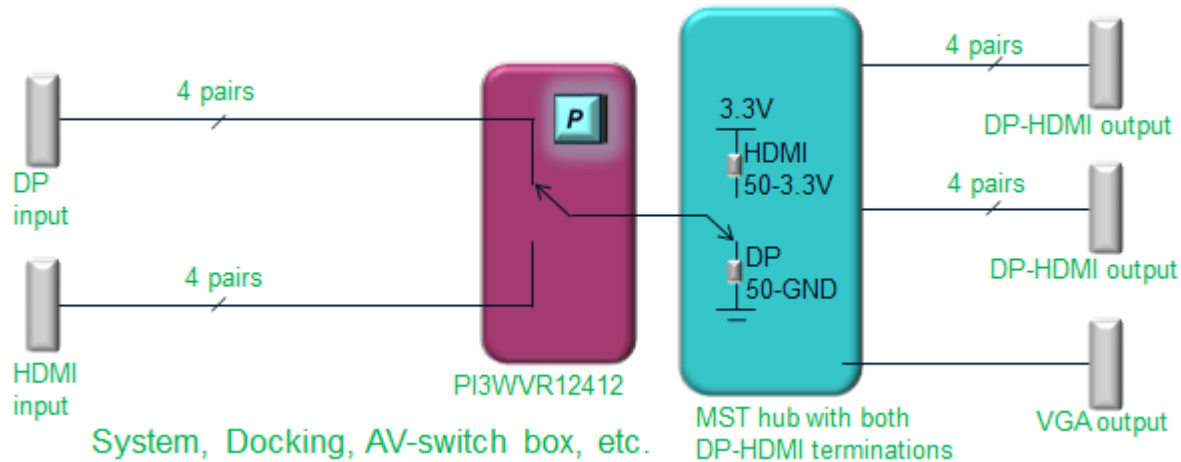
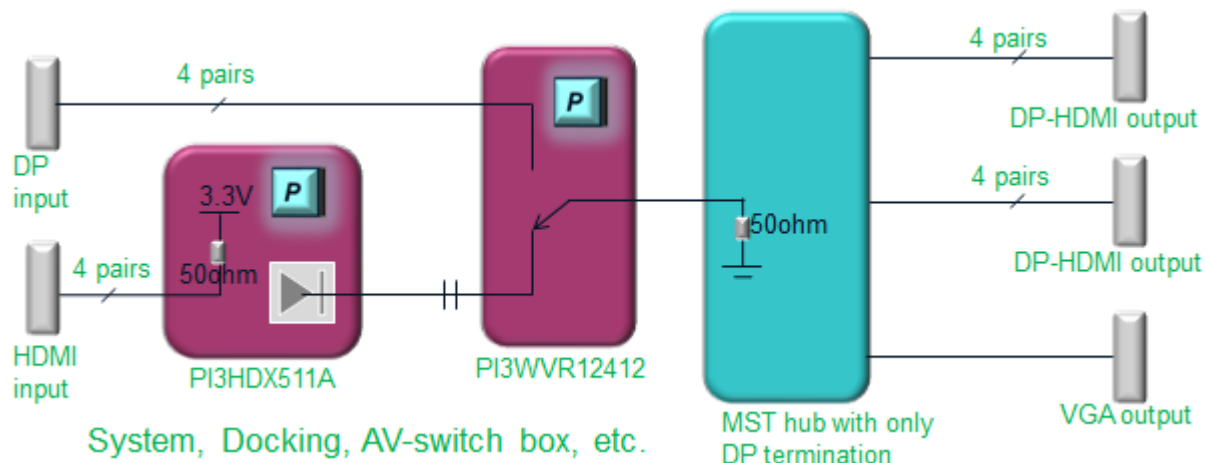

Figure 1, PI3WVR12412 for MST hub with both DP and HDMI input terminations
Figure 2, PI3WVR12412 and PI3HDX511A for MST hub with only HDMI input termination
- When using PI3WVR12412 for MST hub with DP and HDMI input terminations as in figure 1, no need to use PI3HDX511A (figure 2).
The MST hub with only DP input termination needs a HDMI re-driver that can support HDMI at input and can support DP at output, such as PI3HDX511A with 50ohm to 3.3V source output termination (figure 2).
- MST hub with both DP-HDMI terminations (refer to figure 1 and appendix 1)
- MST hub with only DP-termination (refer to figure 2 and appendix 2)